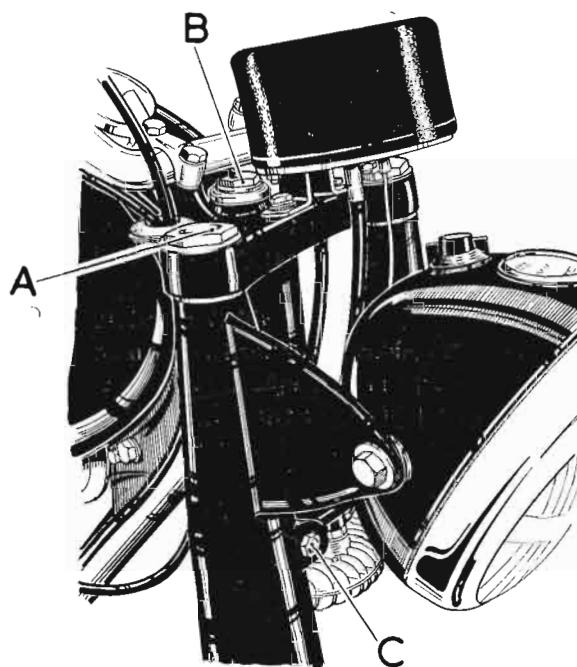

FIG. E.1.
To adjust the steering head assembly, slacken the clamp nuts (C) Fig. E.1 and the top yoke pinch bolt, then tighten down the adjuster nut (B) until adjustment is correct. There should be no play evident in the races but great care must be taken not to overtighten, or the ball bearings will become indented into the races, making steering extremely difficult and dangerous.